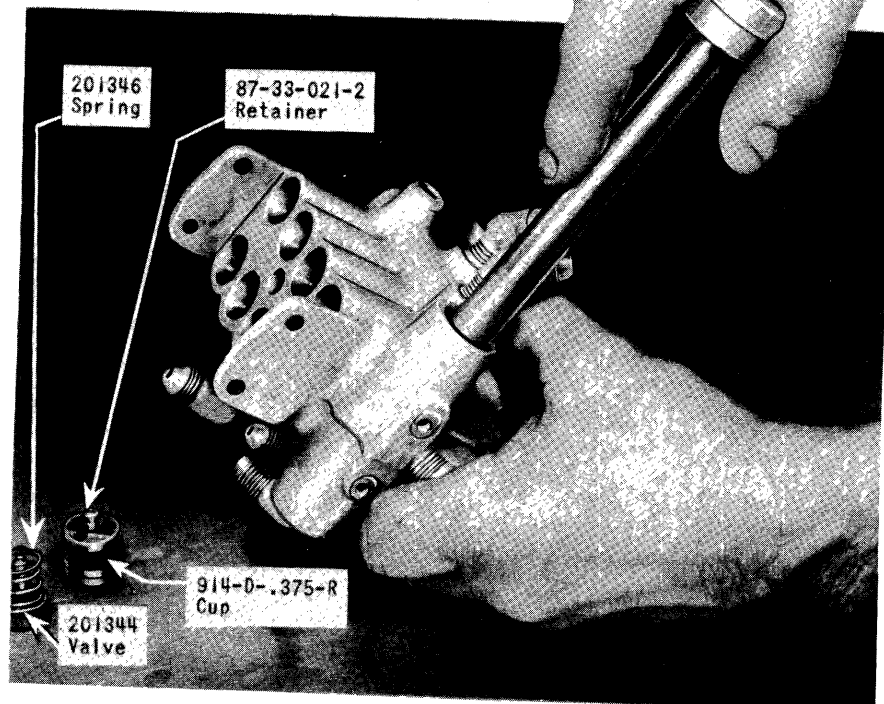

Figure 138 - Removing Retainers and Valves - Inlet Port of Valve Body
(16) Next remove the snap rings from both sides of the inlet port with a snap-ring wrench. (See figure 138.)